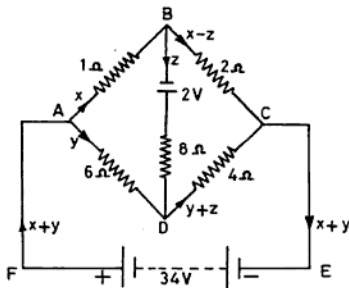

Fig. SE 9.10
**EXAMPLE 9.10** In the Wheatstone bridge network shown in Fig. SE 9.10, find the direction of current passing through each resistance and the total resistance between  $A$  and  $C$ .